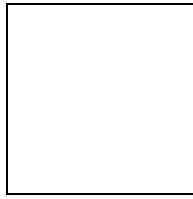

Fig. 14.31. Track Frame Guide
Legend to Fig. 14.31. Track Frame Guide
32. REMOVAL (Refer to Fig. 14.31)
NOTE: When the track frame guides are disassembled in order their repair or replace, new shims must be applied and clearance adjustment (A and B, Fig. 14.31) to 0.8 [mm] must be followed.
NOTE: When the track frame guides are disassembled in order repair or replace of other parts of the machine, the guides must be checked for excessive wear and replace, if necessary. At assembly new or old guides adjust clearance (A and B, Fig. 14.31) to 0.8 [mm].
34. INSTALLATION (Refer Fig. 14.31)
1. Secure plate (28) to machine frame with same thickness of shims (30) as were removed. Torque bolts to 1110 [Nm].
2. Position wear plate (24) between track frame and plate (28). Insert top bolts through holes in block (22) and plate (24) and install spacer (25). Position plates (24 and 29) between plate (28) and machine frame and loosely secure with bolts. Install shims (27) between spacer (25) and plate (24).
3. Working from underneath machine, position spacer (26) between plates (24) and insert hardware. Install shims (27) between spacer (26) and plate (24). Torque all bolts 1110 [Nm].
4. Measure clearances A and B (Fig. 14.31). If total of clearances is 0.8 [mm] or less, adjust by removing shims (27) from between spacers (25 and 26) and plate (24). Remove enough shims to allow for equal spacing. If removal of all shims (27) will not provide a total clearance of less than 0.8 mm, replace worn guide plate (28) and / or wear plates (24) as required. Reinstall shims and repeat check. Lubricate track frame guides.